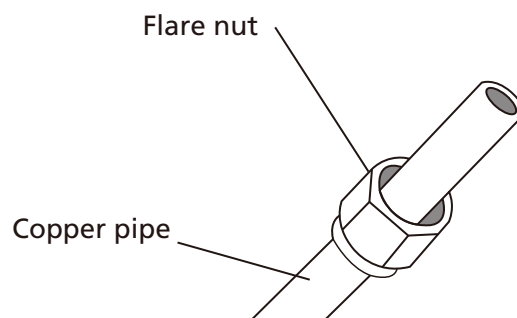

Fig. 5.3
3. Place flare nuts on both ends of the pipe. Make sure they are facing in the right direction because you can't put them on or change their direction after flaring. See **Fig. 5.3**.